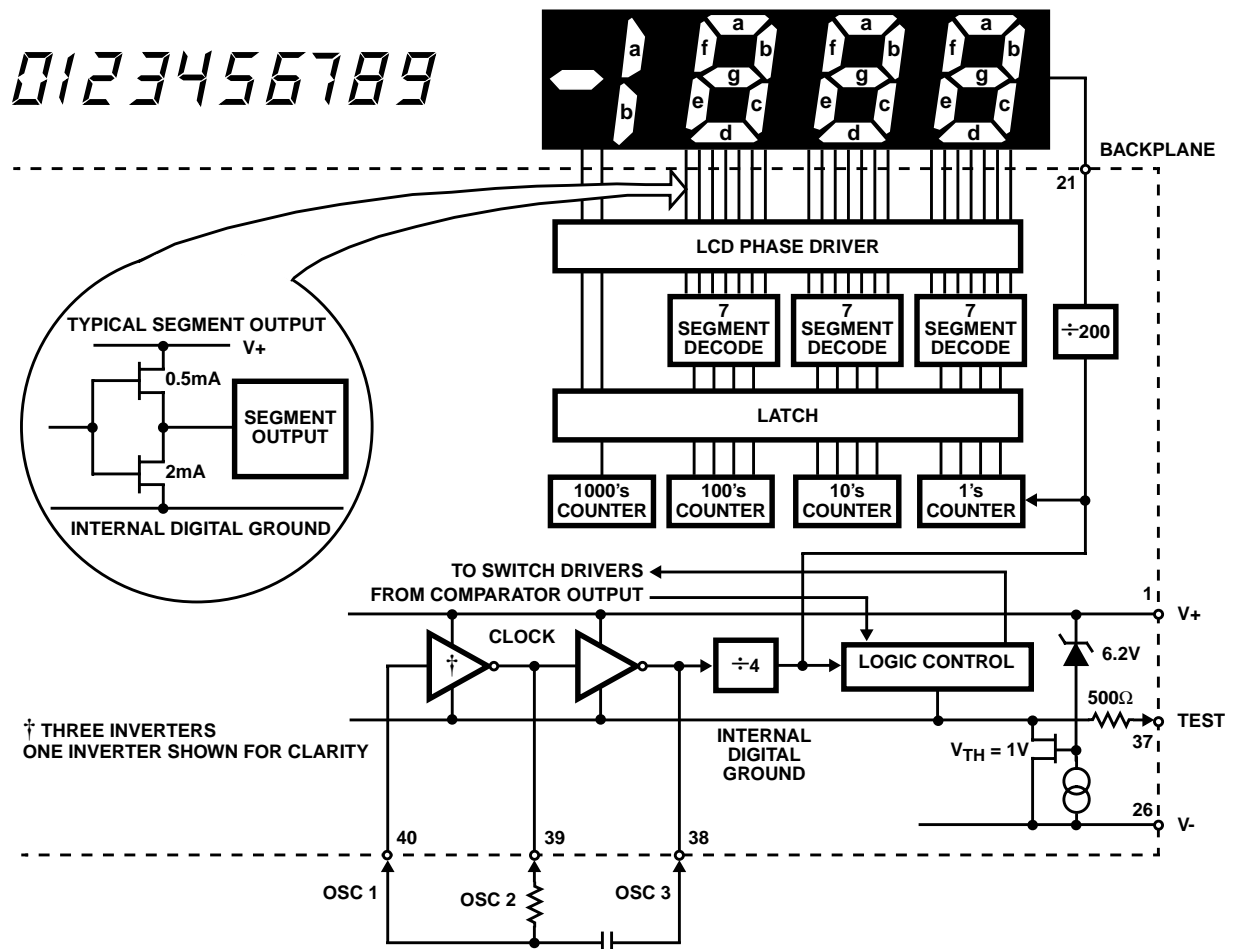

FIGURE 7. ICL7106 DIGITAL SECTION
Figures 7 and 8 show the digital section for the ICL7106 and ICL7107, respectively. In the ICL7106, an internal digital ground is generated from a 6V Zener diode and a large P-Channel source follower. This supply is made stiff to absorb the relative large capacitive currents when the back plane (BP) voltage is switched. The BP frequency is the clock frequency divided by 800. For three readings/sec., this is a 60Hz square wave with a nominal amplitude of 5V. The segments are driven at the same frequency and amplitude and are in phase with BP when OFF, but out of phase when ON. In all cases negligible DC voltage exists across the segments.